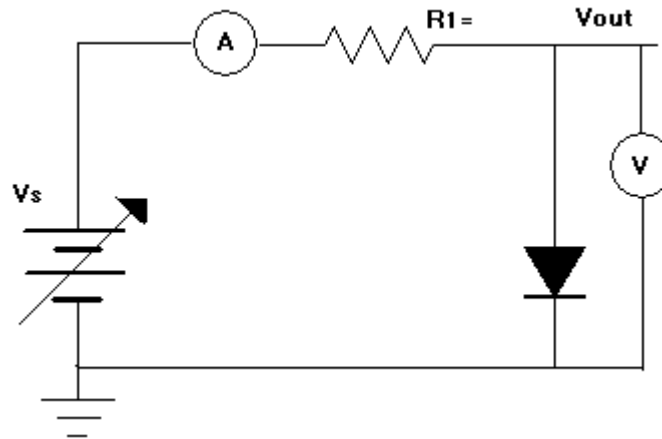

Figure 4.2
1. Connect the circuit in figure 4.2.